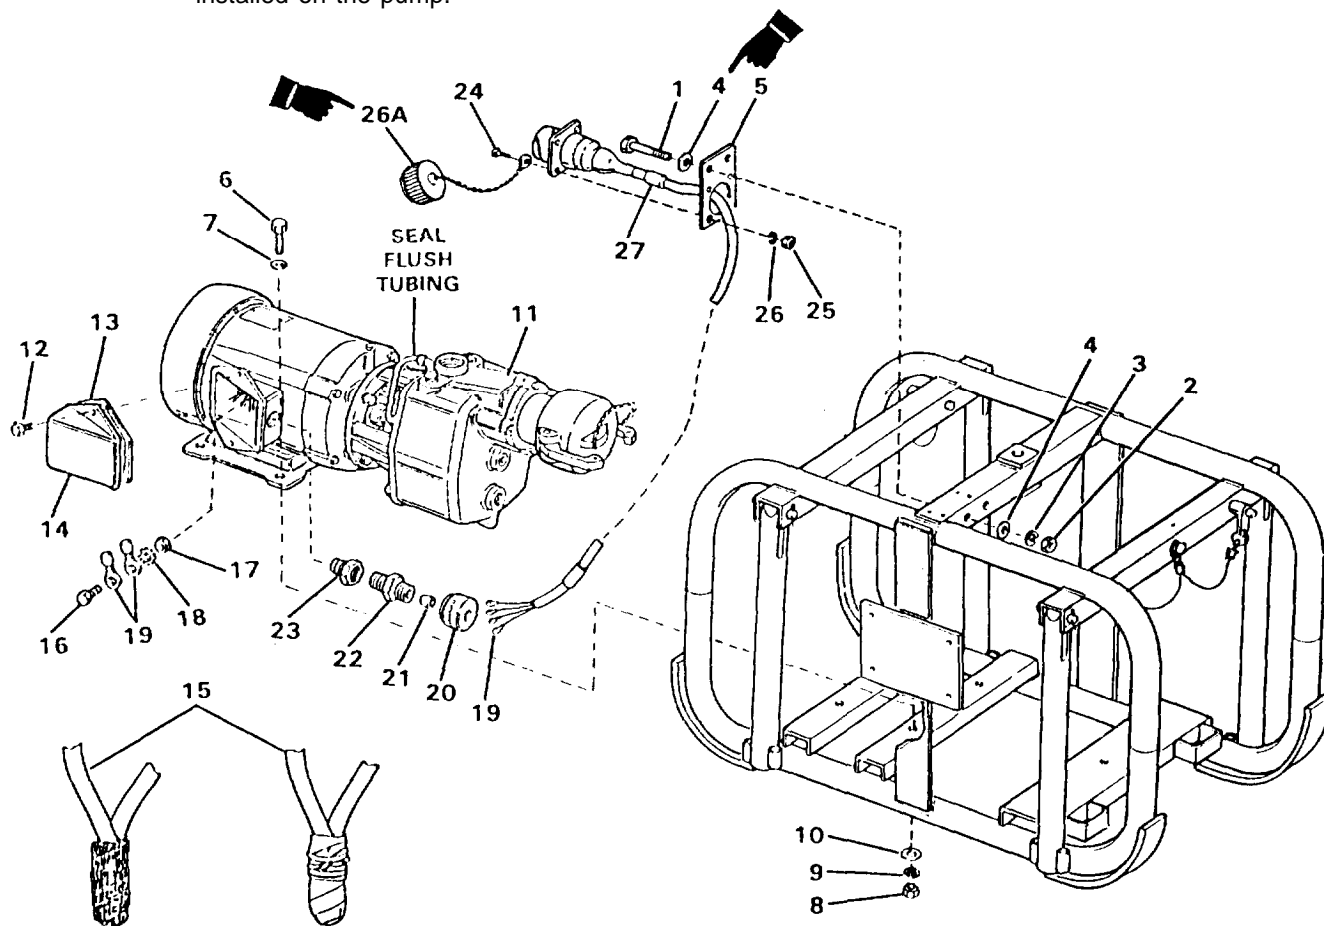

Figure 4-17. Raw Water Pump and Motor Assembly
To avoid injury, two people are required to lift the pump/motor assembly (11, Figure 4-17).
- a. Remove two screws (1, Figure 4-17), nuts (2), lockwashers (3) and washers (4), that hold the connector bracket (5) to the frame.
- b. Remove four screws (6), washers (7), nuts (8), lockwashers (9) and washers (10).
- c. Remove pump and motor assembly (11) from frame.
- a. Remove two screws (12); remove cover (13) and gasket (14) from the electrical box.
- b. Remove twine and tape from wire ends as shown in (15).
- c. Tag all wire ends (19) and disconnect by removing screws (16), nuts (17) and washers (18).
- d. Loosen cable collar (20) and retainer (21). Slide collar and retainer back onto cable.
- e. Carefully pull wires from cable bushing (22) and remove cable bushing adapter (23).
- f. Remove screws (24), nuts (25) and washers (26). Remove dust cap (26A) and cable (27) from bracket (5).